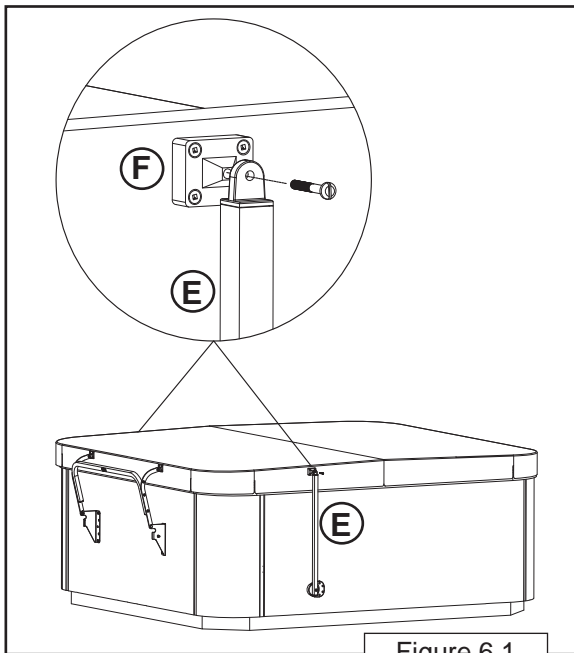

Figure 6.1
1. Remove the single bolt attached to the Side Hinge (F) (Figure 6.1) on the side of the spa. Attach the Side Arm Assembly (E) (Figure 6.1) to the Side Hinge (F) (Figure 6.1) using the single bolt. Repeat on other side of spa.
2. **IMPORTANT:** Plastic Bottom (Pivot Bracket) of Side Arm Assembly (E) must lay flat against spa cabinet.